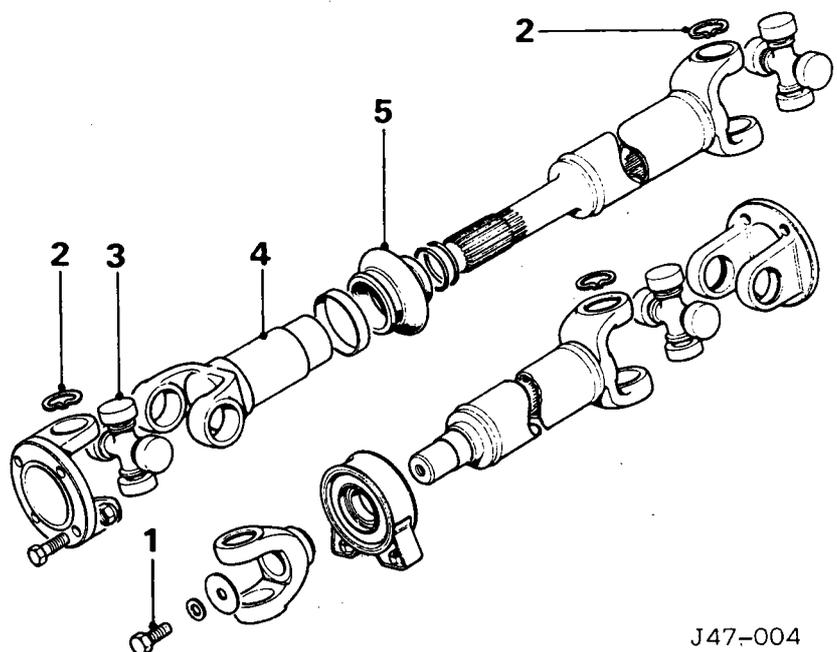

Fig. 3
To remove the rear propeller shaft, insert a suitable distance piece (e.g. a scrap nut), between the head of the bolt (1, Fig. 3) securing the centre joint yoke to the rear shaft, and the spider of the centre universal joint.
Using an open-ended spanner, unscrew the bolt (1, Fig. 3) from the rear shaft; to separate the shafts, break the Loctite adhesion between the splines and withdraw the rear shaft from the centre yoke.
To overhaul the propeller shaft universal joints, remove the snap-rings from the grooves (2, Fig. 3).
**NOTE:** If difficulty is encountered, tap the bearing cup (3, Fig. 3) inwards to relieve the pressure on the snap-ring.